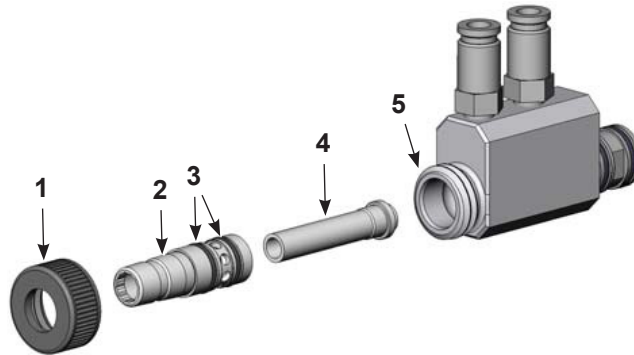

Figure 3 Throat Removal and Installation
1. See Figure 3. Unscrew and remove the nut (1).
2. With a slight twisting motion, pull the throat holder and throat (2, 4) out of the pump body (5). Inspect the holder and the two conductive silicone O-rings (3) installed on it for wear or damage. Replace any worn or damaged parts.